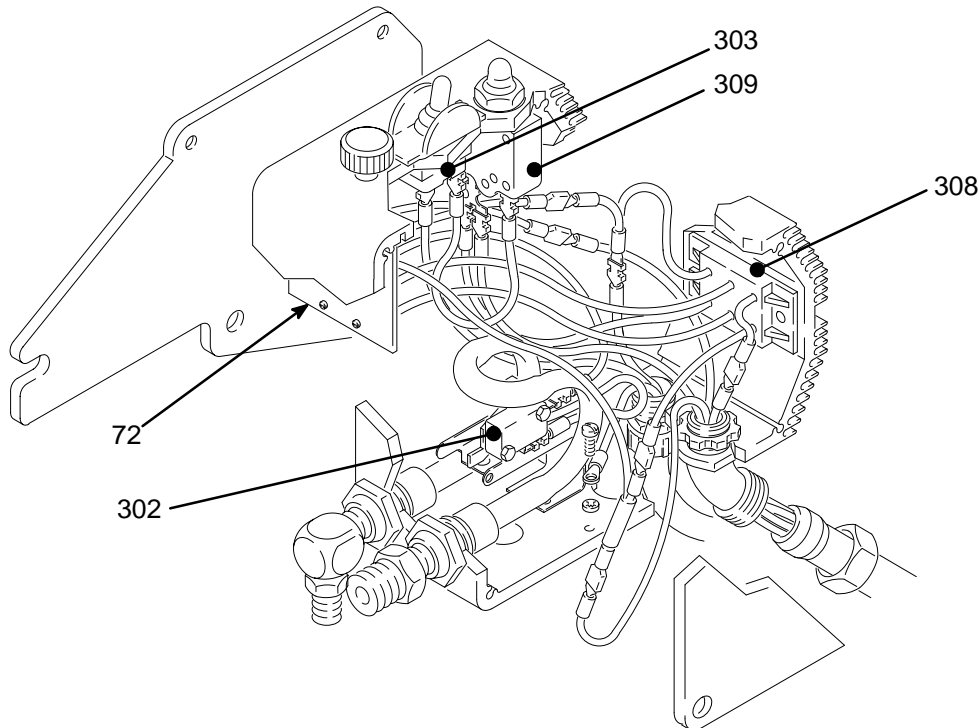

Fig 22-2
Disconnect the two leads from the motor to the bridge (308). See Fig 22-2.